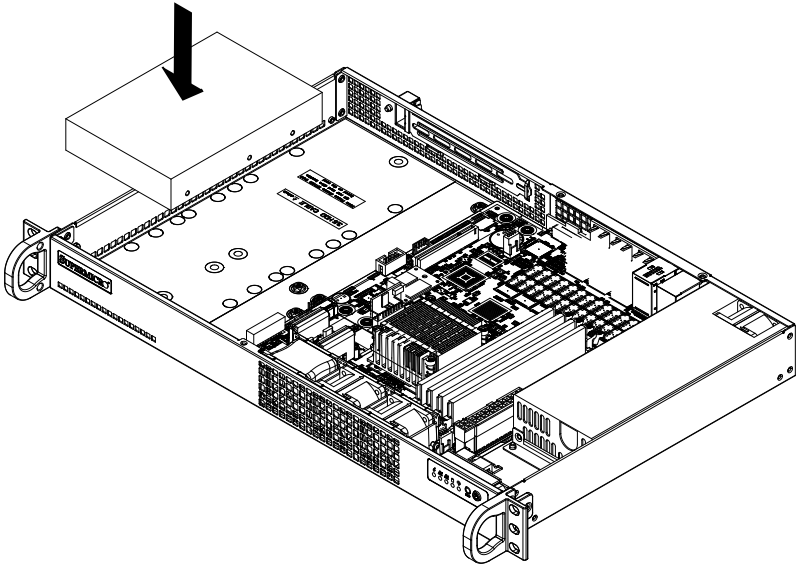

Figure 3-11. Installing a 3.5" Drive in the Chassis
- 1. Place the 3.5" hard drive in the chassis as illustrated in Figure 3-11.